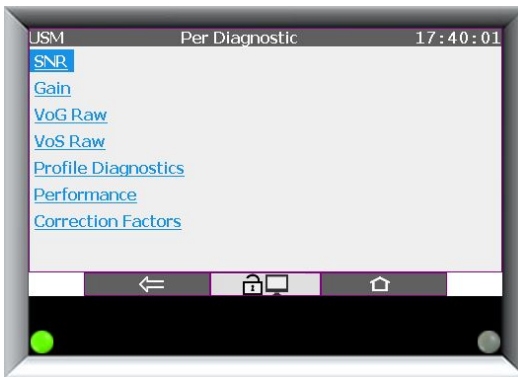

Figure 7-15: Per Diagnostic
**Per Diagnostic** is broken down into 7 sub-sections, see Figure 7-15: